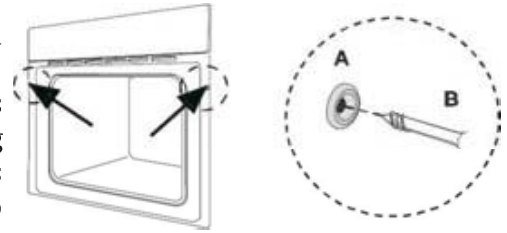

Fig. 1
4. Use screws through the holes in the mounting frame to secure the unit in position. (Fig. 1)